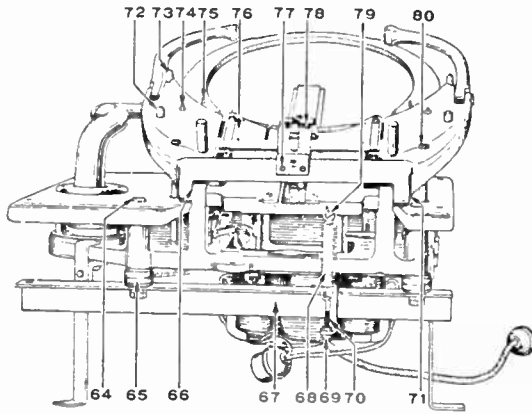

Fig. 11 - Automatic Mechanism Back View
c. Record guide pins 74 or 75, Fig. 11, not fitting properly in holes of lift ring. This fit should allow a free vertical motion of the pins, but a minimum side motion.
9. LIFT RING RISES TOO SLOWLY - If the lift ring rises too slowly with a resulting strain on the mechanism, or if it descends too fast, increase the tension of spring 68, Fig. 11, in the back of the mechanism in the following manner:
10. LIFT RING RISES TOO FAST - If the lift ring rises too fast, if it descends too slowly, or if it touches the under side of the record on the turntable during playing, decrease the tension of the spring 68, Fig. 11, in the following manner: